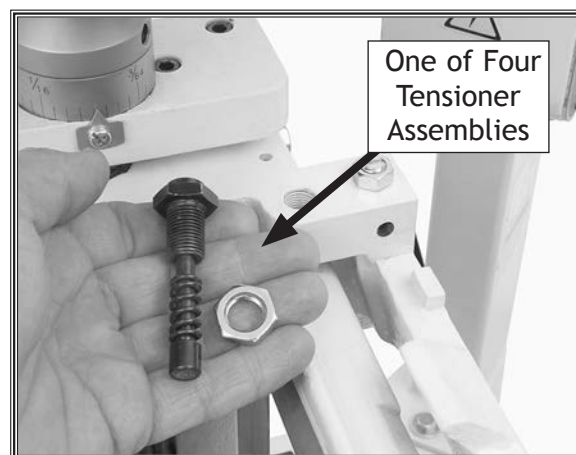

Figure 51. Tensioner assembly.
Figures 51–53 show lubrication locations that need attention every six months; however, under heavy use or adverse working conditions, increase lubrication intervals accordingly.
3. Loosen the nuts and un-thread the tensioner assemblies, one of which is shown in **Figure 51**.